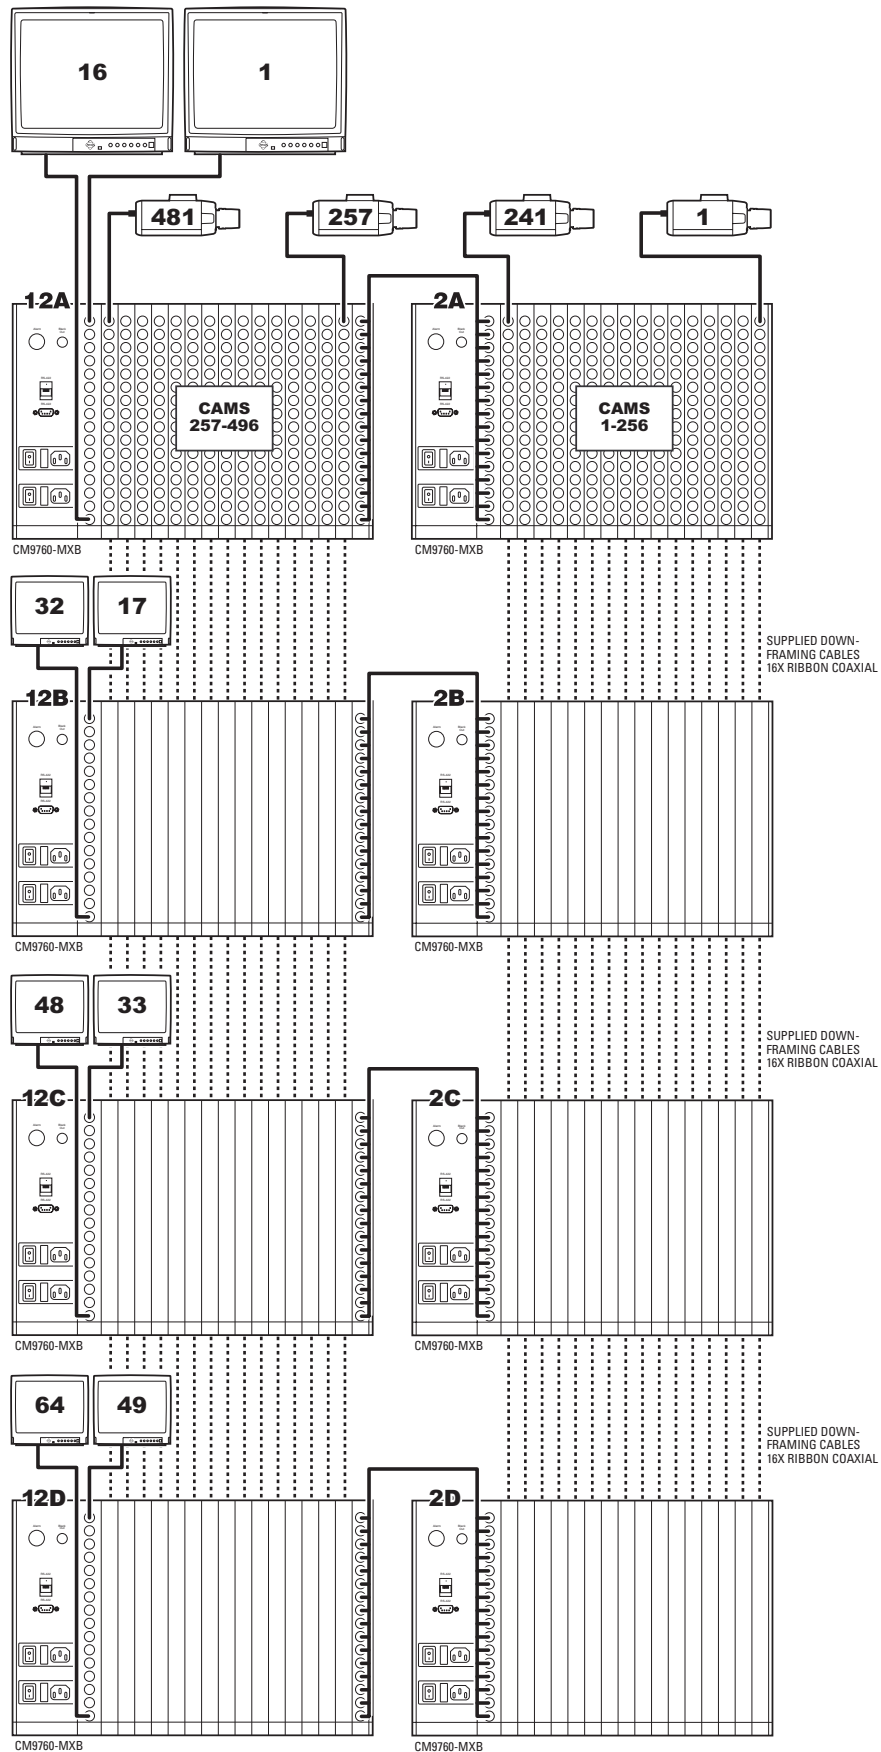

Figure 71. Sideframing and Downframing: 496 x 64 Configuration
- 496 x 64 (refer to Figure 71)